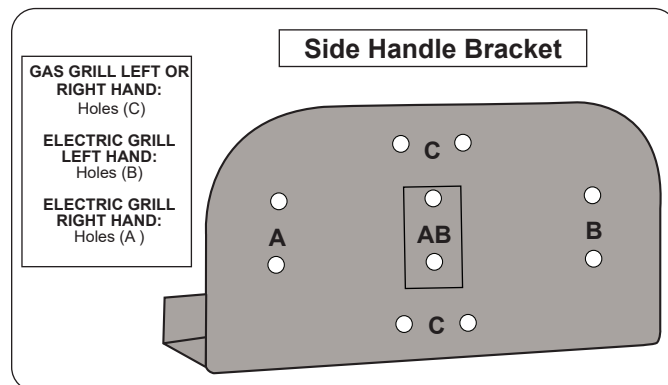

Fig. 1-1. Identify Drill Holes
2. Reference the drilling template diagram in Fig. 1-1 to help identify the necessary holes to be drilled for your specific unit.